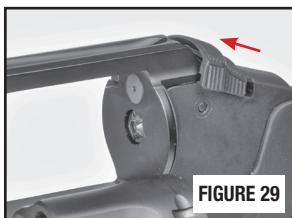

FIGURE 29
- Push the thumbpiece forward to release the cylinder and then tip the cylinder to the left, out of the frame (FIGURE 29).